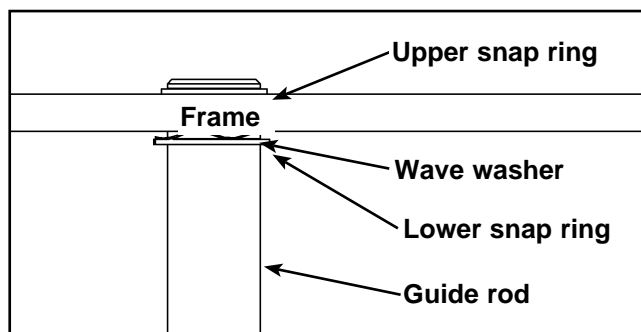

Figure 5
- C. Using an external snap ring pliers, remove the upper snap ring from one of the guide rods and carefully lower the guide rod. See Figure 5.